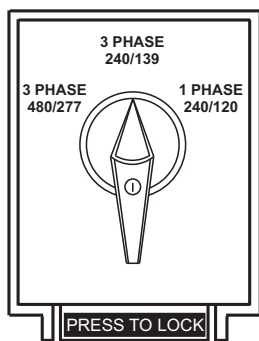

Figure 19. Voltage Selector Switch
1. Place the voltage selector switch in the 3Ø 240/139V position as shown in Figure 19.